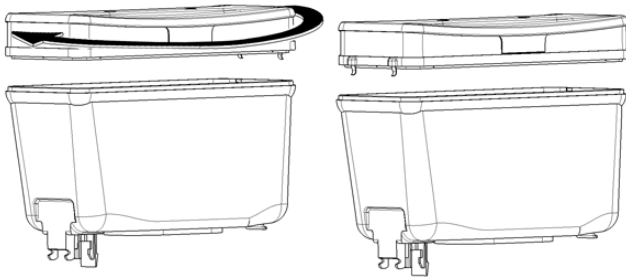

figure 1
9. On machine equipped with lighted top cover turn the cover for 180 degrees to switch light off (see figure 1).